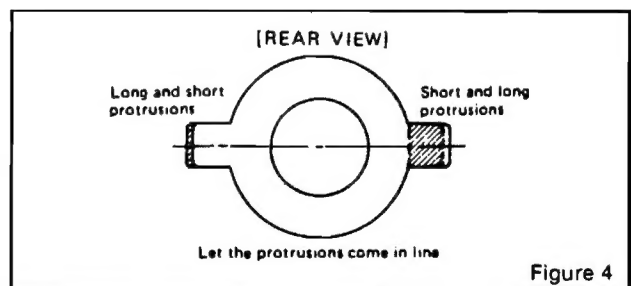

Figure 4
- 1.4 Bring the long and short purity tab protrusions in line with each other to obtain near-zero magnetic field (figure 4) (In some cases bring the flat and indented tabs together to obtain zero field). Protrusions can then be vertical, horizontal or at any convenient angle to start.